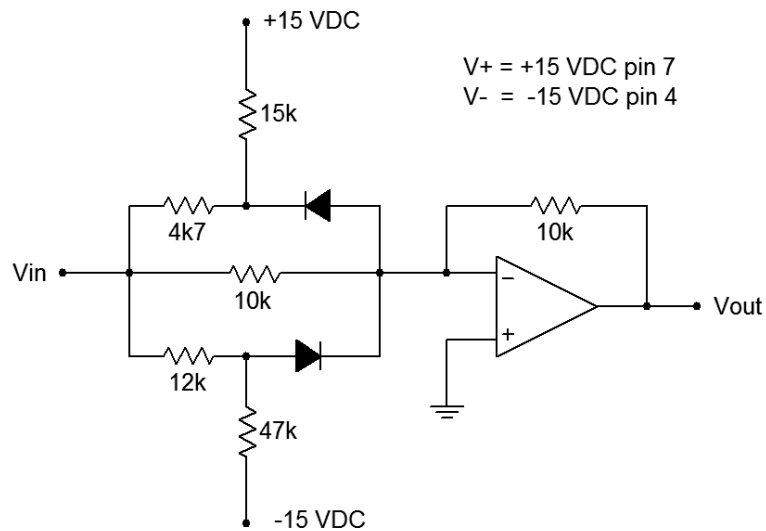

Figure 1
1. Calculate the breakpoints and slopes for the input/output transfer curve of the circuit in Figure 1. Record these values in Table 1.
2. Assemble the circuit of Figure 1.